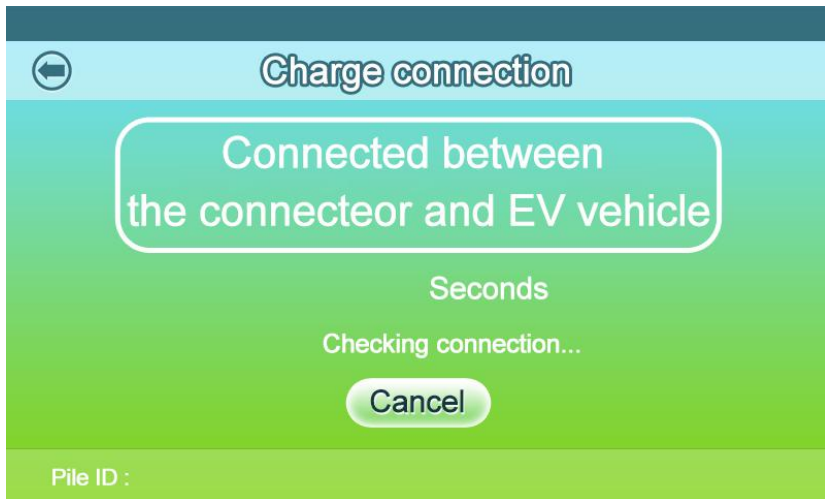

Figure 3-7 Insert a charging gun
- 3) Next, if the charging gun is not connected after swiping the card, jump to the prompt "please connect the charging gun" interface, if the charging gun has been connected, jump to the charging start countdown, as shown in figure 3-7,3-8 below.